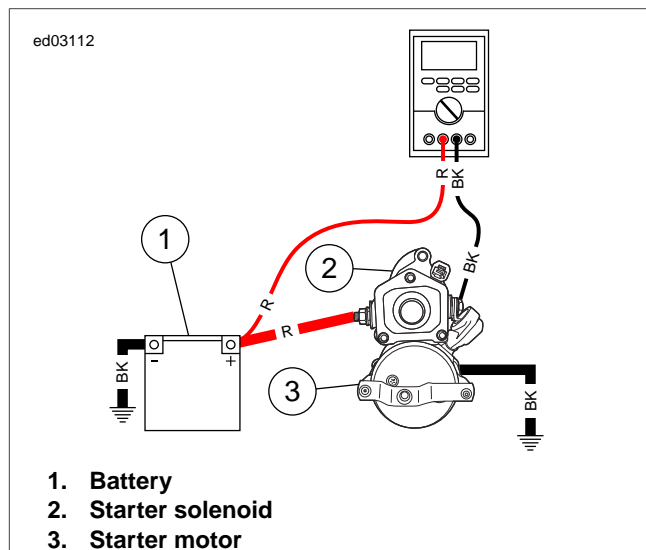

Figure 1-28. To Starter Solenoid Starter Terminal
2. See Figure 1-28. Connect the red meter lead to the positive battery post. Connect the black meter lead to the